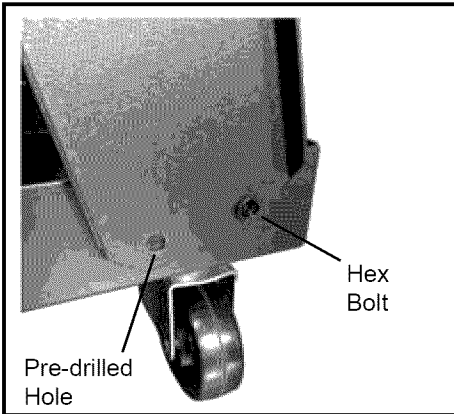

Fig 4.
8. Find the left side vertical panel. With the lips out align the two pre-drilled holes of the left side vertical panel with the two pre-drilled holes in the lip of the bottom panel at the front (Fig 4). They are located right above the left side caster. Insert a hex bolt into the pre-drilled holes in the left side vertical panel and into the pre-drilled holes in the lip of the bottom panel. Secure with a hex nut. Repeat for the other mounting hole.